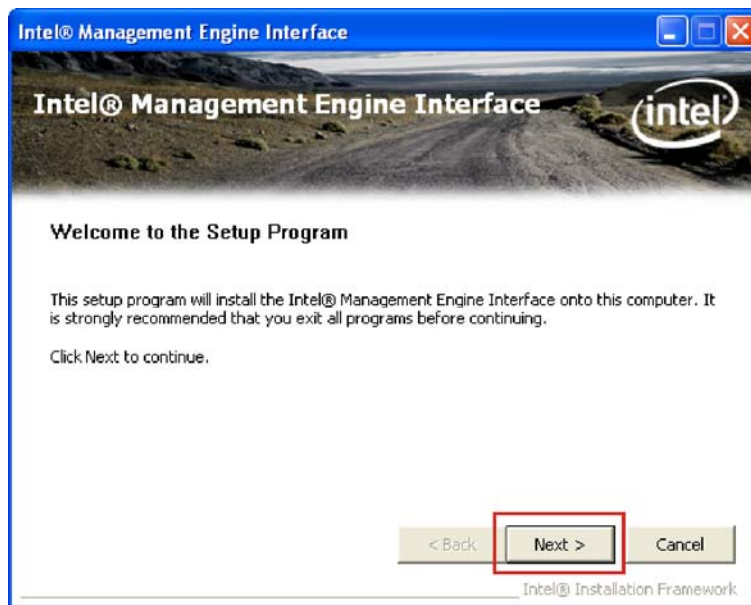

Figure 7-39: IAMT Welcome Screen
Step 3: The welcome screen appears (Figure 7-39).